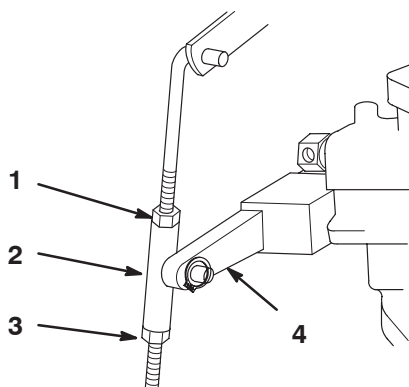

Figure 35
4. Loosen top and bottom jam nuts at pump arm neutral adjustment sleeve (Fig. 35).
5. Push down on Pump Arm until Sleeve contacts bottom nut (Fig. 35). Wheel should now be rotating slowly in reverse.
6. Turn bottom nut up slowly, moving sleeve and pump arm up, until wheel stops rotating (Fig. 35).
7. Turn top nut down against sleeve and tighten to lock the adjustment (Fig. 35).